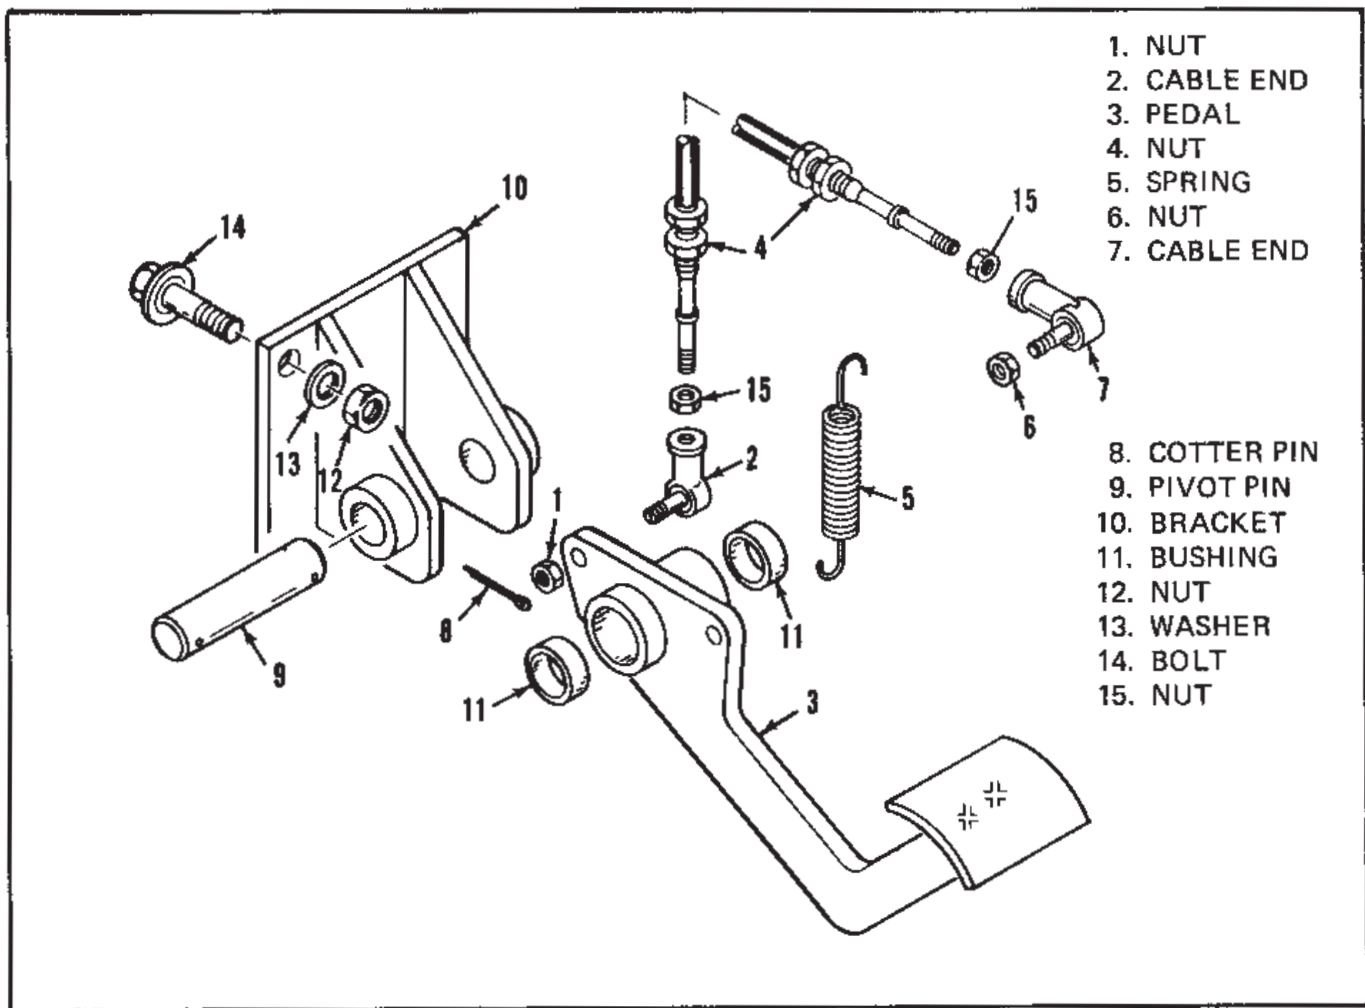

Figure 09C-1. Inching Control Linkage
3. Adjustment (Figure 09C-1). When final adjustment of the inching control linkage is completed, the spool in the control valve should bottom out and the inching control pedal (3) should strike the stop simultaneously when the pedal is depressed. The inching control pedal should have 1/4 inch free travel when the pedal is in the released position. As the pedal is depressed, the control valve spool should start to move as the 1/4 inch free travel is surpassed. This free travel is normal, and is caused by slack in the clevis pin connection, rod end connections, etc.
a. If the spool bottoms out before the control pedal (3) strikes the stop, the linkage may be too long.
b. If the control pedal (3) strikes the stop before the spool bottoms out in the control valve, the linkage may be too short.
FORWARD AND REVERSE CONTROL LINKAGE (Figure 09C-2)